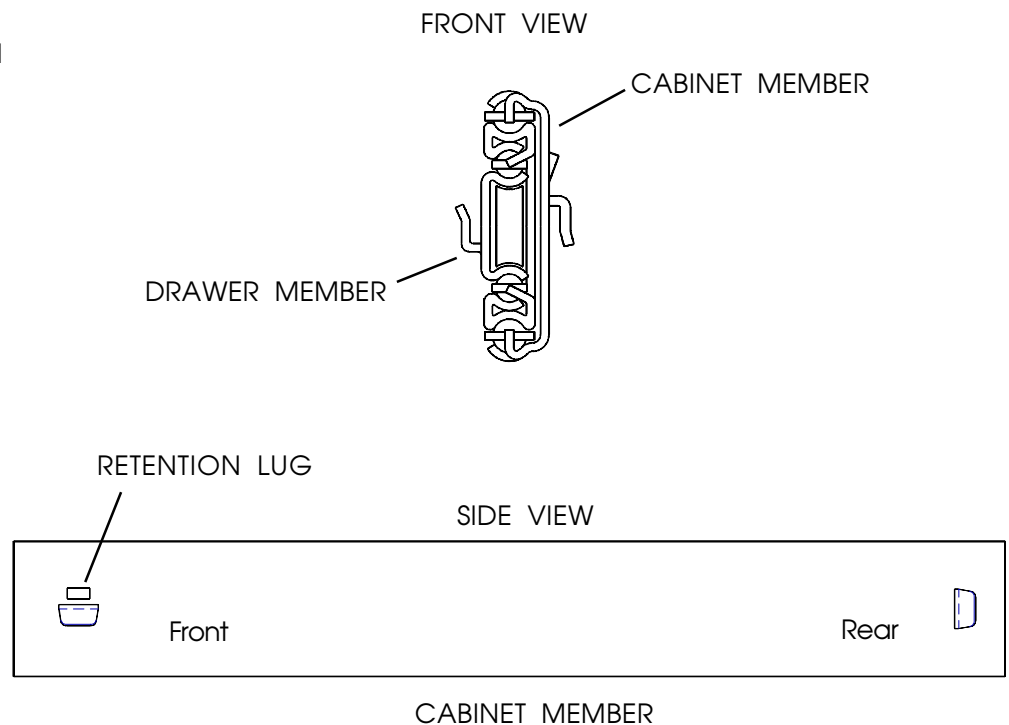

Figure 3. Installing Lower Drawers
1. Take one heavy duty slide and insert rear clip into desired rear notch, and lower front clip into front notch (See Figure 3.).